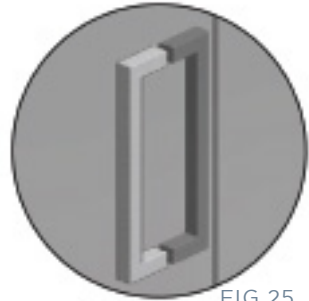

FIG.25
- Remove the handle from the wrapper, dismantle and re-assemble onto either side of the door. Take care to ensure the plastic bushes are located inside the locator holes and the locking hex screws are tightened so the handle is tight and secure (FIG 25).